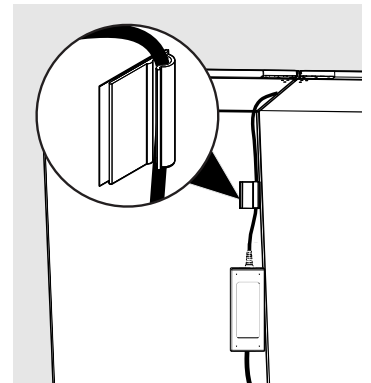

Fig. 12
- If the power supply cannot be placed on top of the unit, adhere it vertically on the back wall of the unit and make sure the connection of the 3-prong connector to the power supply is facing down (Fig. 12).